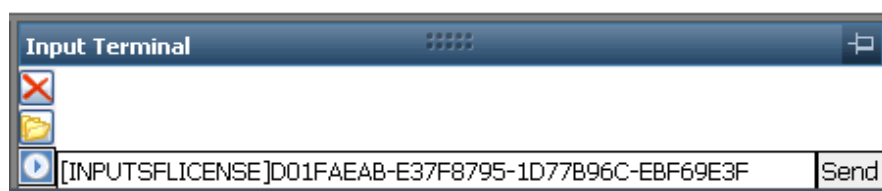

Figure 110: Notepad – StarFire License Code
2. On the StarUtil 3000 *Input Terminal*, type the command [INPUTSFLICENSE] and paste the license code directly following that command (see Figure 110).